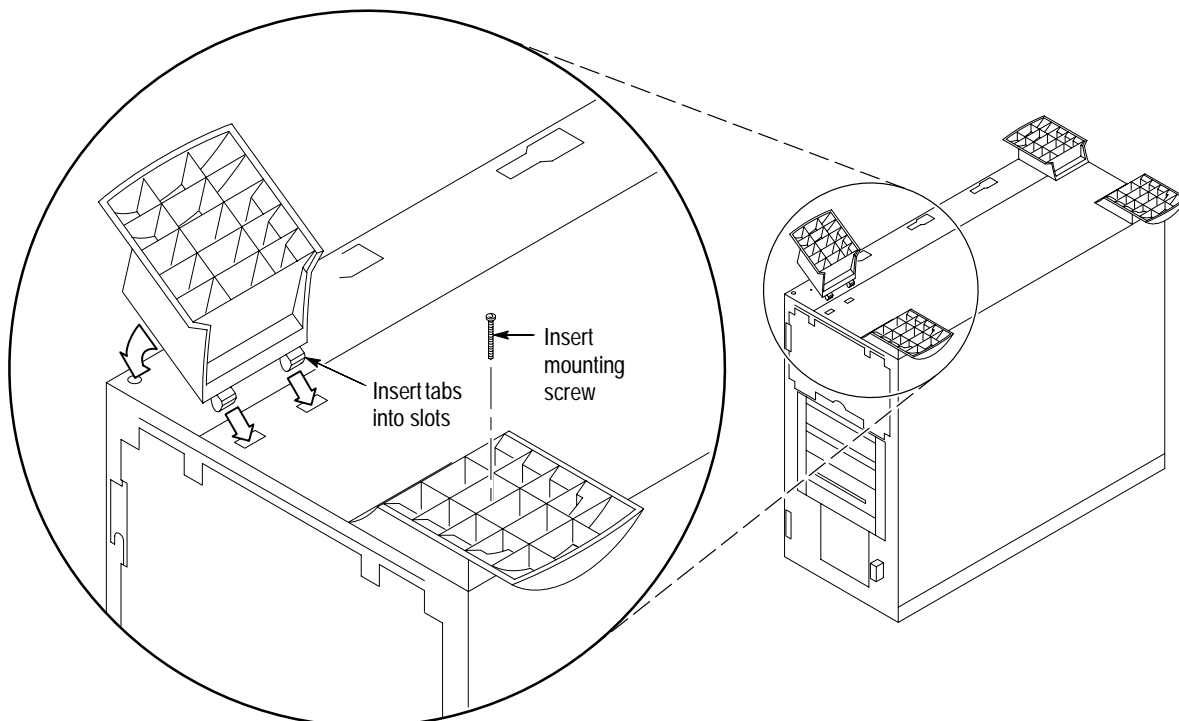

Figure 1: Installing the computer feet
- c. For each of the four feet, insert the tabs into the mounting slots in the computer base as shown in Figure 1.